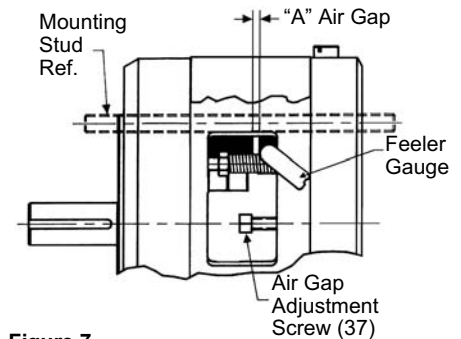

Figure 7
(Refer to Figures 7, 8 and 12)
2. Measure air gap "A" using 3/8" to 1/2" wide feeler gauge as shown in Figure 7.